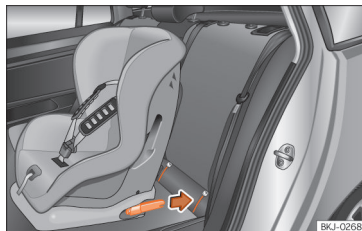

Fig. 25 Rear seats: fitting a child seat with the ISOFIX system.
- Press the child seat onto the “ISOFIX/iSize” retaining rings until the child seat is heard to engage securely » **Fig. 25.** If the child seat is equipped with Top Tether anchor points, secure it to the correspondent ring » **page 34.** Observe the manufacturer's instructions.